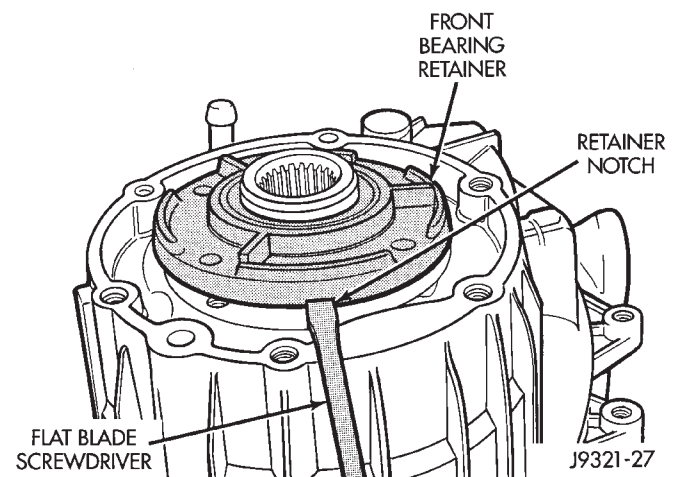

Fig. 42 Front Bearing Retainer Removal
(28) Remove front bearing retainer as follows: Loosen retainer with flat blade screwdriver to break sealer bead. Then remove retainer from case and gear. **To avoid damaging case and retainer, position screwdriver blade only in slots provided in retainer (Fig. 42).**